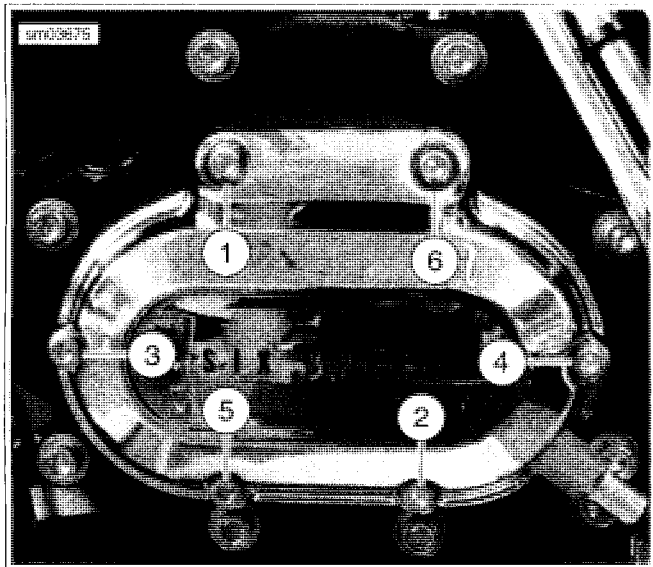

Figure 6-3. Cover Screws
4. See Figure 6-3. Remove the six screws that hold the clutch release cover in place. Remove the clutch release cover and discard the gasket.
See Figure 6-3. Clutch release cover screws in positions (1) and (6) are shorter than the others.
7. See Figure 6-3. Install clutch release cover. Tighten all six screws to 84-108 **in-lbs** (9.5-12.2 Nm) in sequence shown.